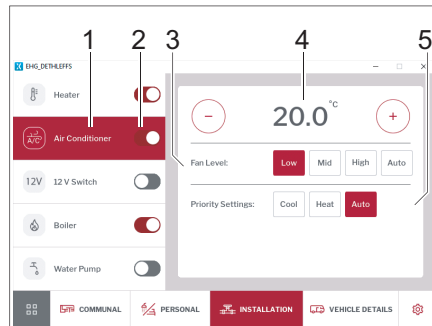

Fig. 287 Air conditioning unit
- Use the switch to turn the air conditioning unit (Fig. 287,2) on or off.
- Click on the *Air Conditioning Unit* (Fig. 287,1) button.
- Use the plus and minus buttons to select the desired living area temperature (Fig. 287,4).
- Set the desired prioritisation (cool/heat/auto) (Fig. 287,5).
- Selection ventilation level (Fig. 287,3).